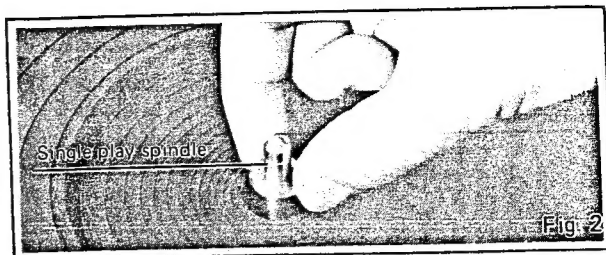

Fig. 2
1. Install the single-play spindle to the shaft (See Fig. 2.)